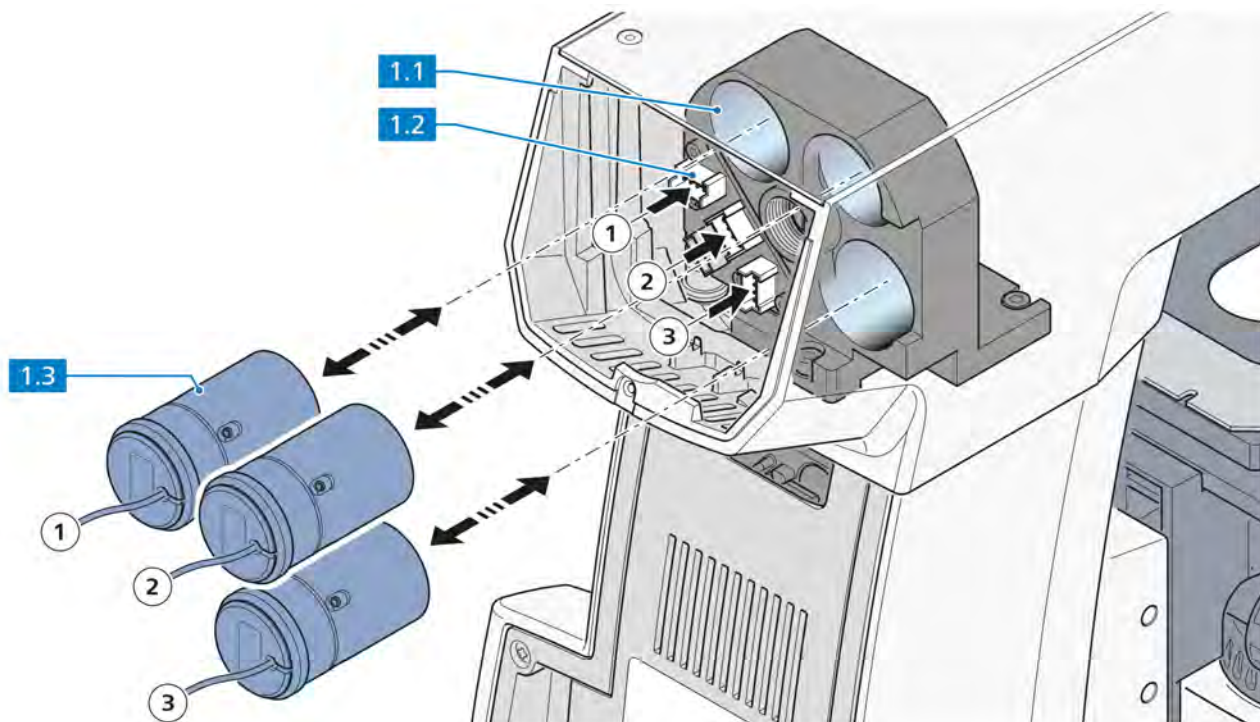

Fig. 3-26 Changing the LED modules
- When changing the modules, remove the module plugs from the connectors (Fig. 3-26/1.2) of the stand.
- Pull the old LED modules (Fig. 3-26/1.3) out of the holding positions of the LED tube (Fig. 3-26/1.1).
- Insert the new LED modules into the LED tube up to the stop. Ensure that the modules are inserted in the right holding positions (Fig. 3-26/①②③).
NOTE The LED positions ①, ② and ③ in Fig. 3-26 correspond to the UV , B and G labels on the right side of the microscope (see section 2.4.3, Fig. 2-3/4).
- Plug the module plugs into the connectors (Fig. 3-26/1.2) of the stand. Ensure that the plugs are connected to the right connectors (Fig. 3-26/①②③).
- Screw the module holder (Fig. 3-26/1) into the LED tube to fix the modules in place.